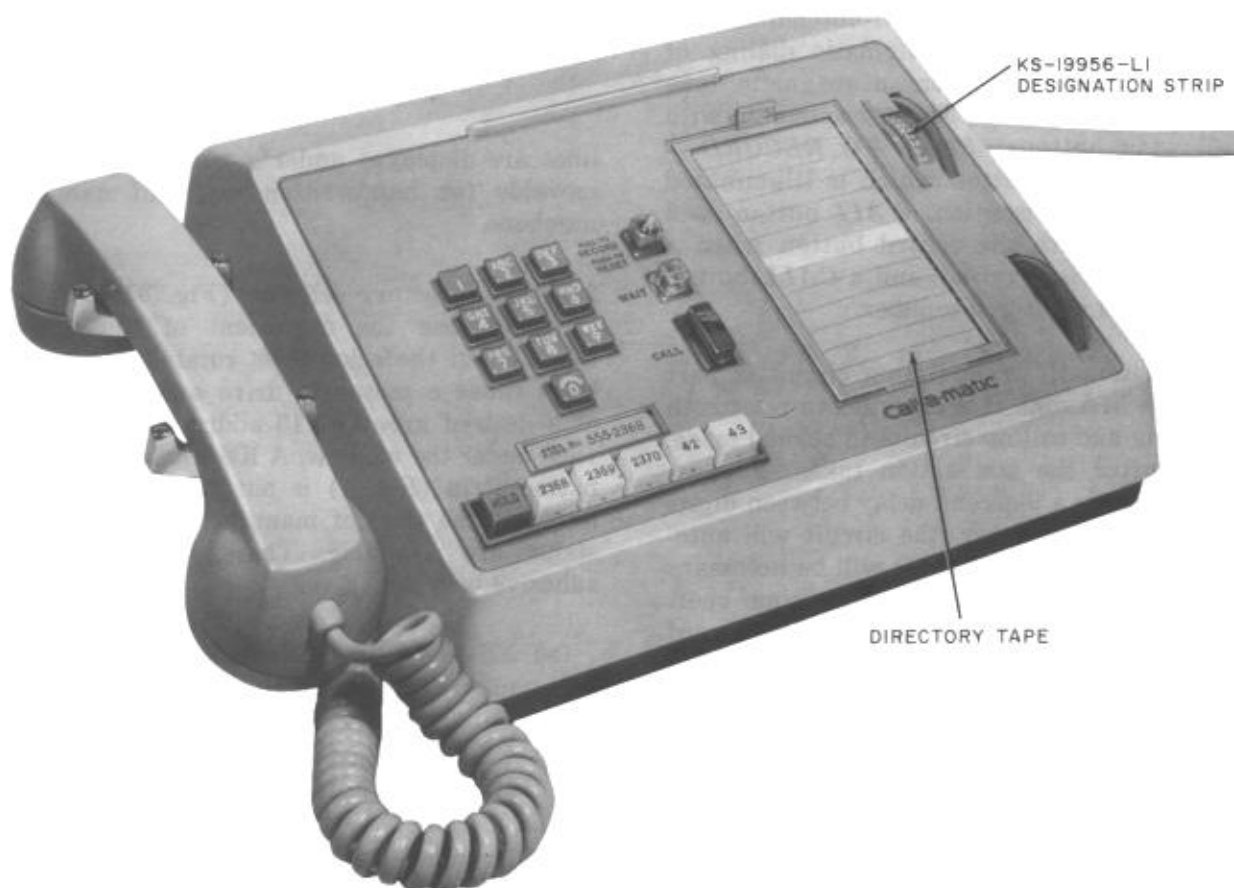

Fig. 1 — 1671A1 Telephone Set
1.01 This section provides information on a 6-button TOUCH-TONE dial telephone set containing a magnetic tape memory capable of storing and dialing 500 fourteen digit telephone numbers, Fig. 1.
2.01 The 1671A1 telephone set (Fig. 1) is a desk type telephone about the size of a 30-button CALL-DIRECTOR. It consists of a
2.08 A directory selector (Fig. 3) is for controlling the movement of the directory tape. When the selector is rotated, electric contacts cause a motor to drive and stop the tape at a desired group of 13 addresses brought into view under the window. A KS-19956, List 1 designation strip (Fig. 1) is put on the directory selector at the time of manufacture. Two optional strips are available. These strips have self-adhesive backing.
(4) **Index Space** (Fig. 1) is the light area under the directory tape. To record or call a number, the desired space and/or name **MUST** appear over this index space.
(6) **PULL TO RECORD — PUSH TO RESET Button** (Fig. 1) must be pulled up and released to condition the CALL-A-MATIC dialer for recording numbers. This button is illuminated when in the record position. To reset dialer, depress the button.
(7) **WAIT Button** (Fig. 1) is pushed after recording access digits for outside line service when dialing from a PBX. This button conditions the CALL-A-MATIC to stop for second dial tone after dialing access digits.
(8) **CALL Button** (Fig. 1) is pushed after hearing dial tone when making a call from the repertory. Outside calls from a PBX line will require a second push of the CALL button after second dial tone is heard. The CALL-A-